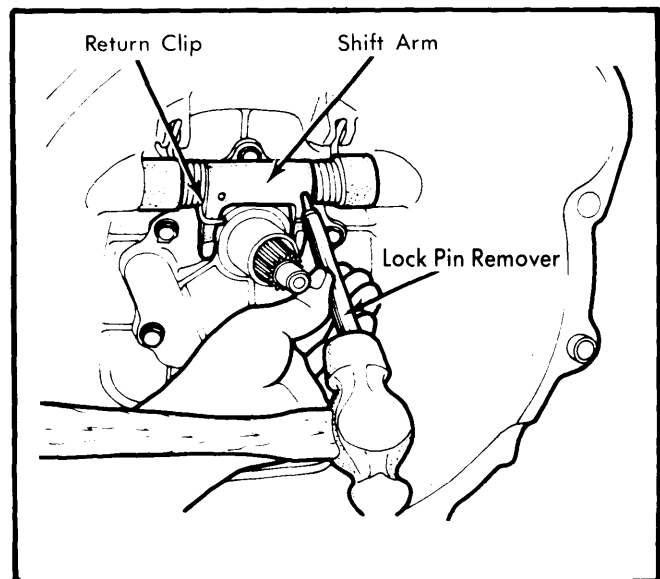

Fig. 2 Using a $\frac{3}{16}$ " Punch to Remove Shift Arm Spring Pin
5) Drive in 2 shift arm springs pins. Face spring pin slots UP. See Fig. 2.